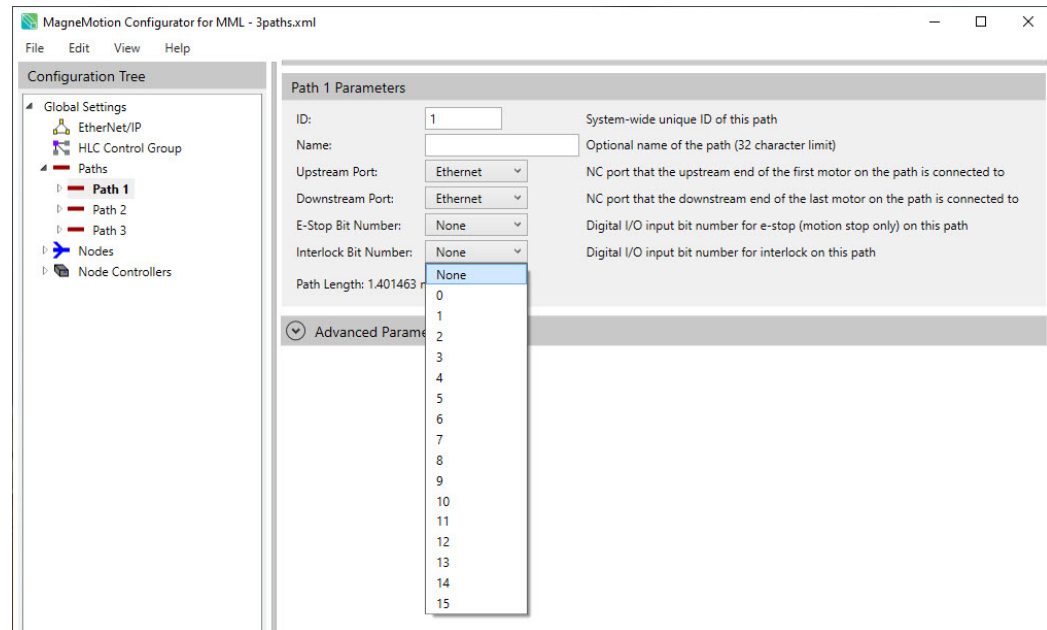

Figure 4-140: Adding an Interlock to a Path
*The **Path Details** page for the selected path, see Figure 4-140, is displayed in the Configuration Settings Pane.*